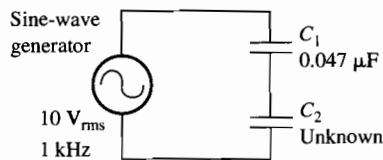

Figure C-9-2
14. Consider the circuit shown in Figure C-9-2. C_1 is known to be $0.047 \mu\text{F}$, but the value of C_2 is unknown. Assume you measure $6.8 \text{ V}_{\text{rms}}$ across C_2 . What is its capacitance?